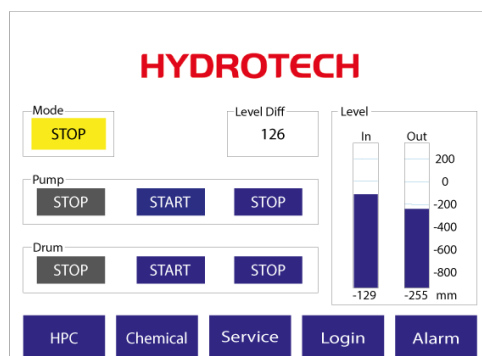

Figure 7.24 Main menu on electrical cabinet operator panel.
2. Select “Service” on the operator panel, see Figure 7.24.